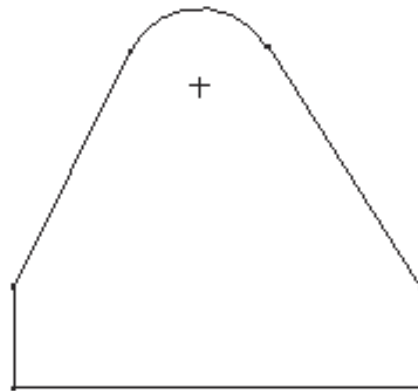

Figure 1-29 Arc drawn tangent to the lines
- Using the left mouse button, select the endpoint of the right inclined line as the endpoint of the arc, see Figure 1-29.